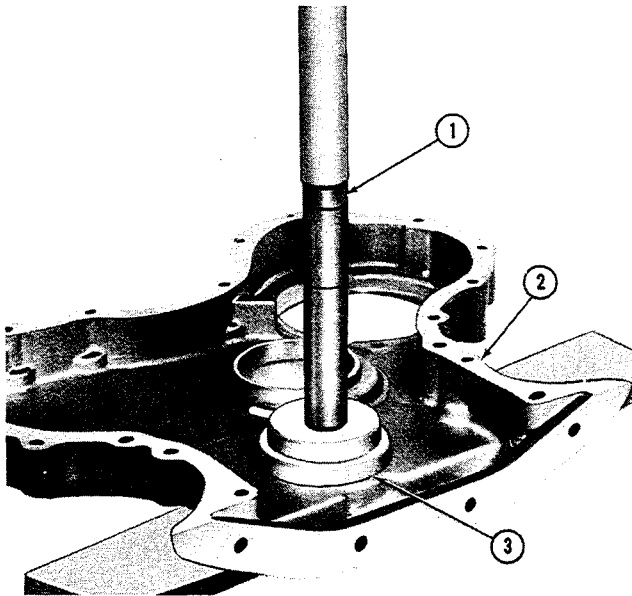

Figure 28
3. Insert the dust seal in the seal bore before installing the oil seal. Coat the new oil seal with petroleum jelly and install the seal as shown in Figure 28. To install the seal, use Step Plate No. 630-16 and a driver handle. Drive the seal in until it is fully seated in the seal bore. Check after installation to be sure the spring is properly positioned in the seal.